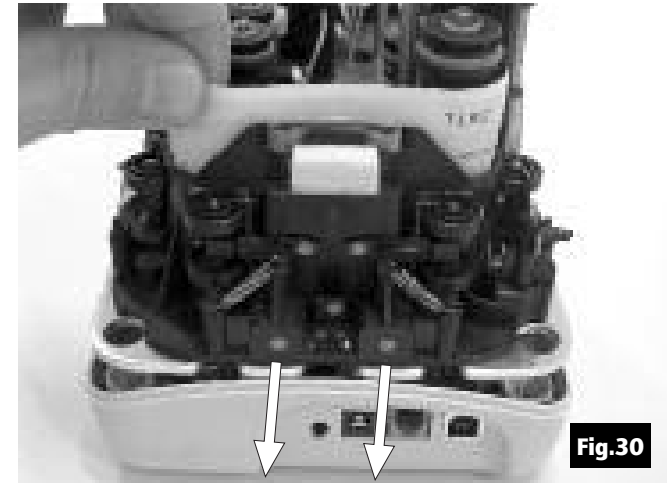

Fig.30
6. To remove the "U" track wall see Fig.30.